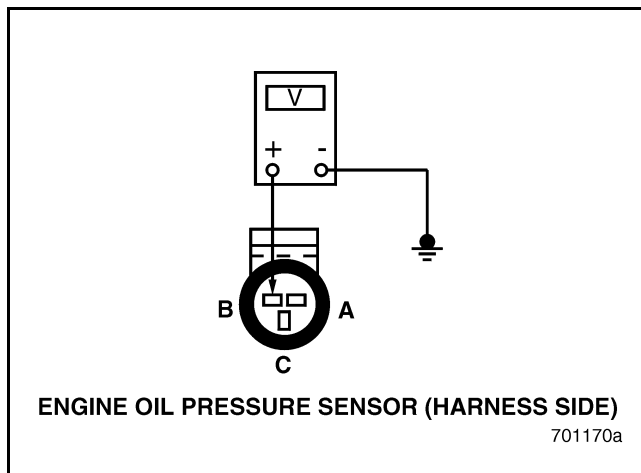

Figure 26
4. Measure the voltage between EOP Sensor harness connector pin B (reference voltage line) and a good ground (see Figure 26).